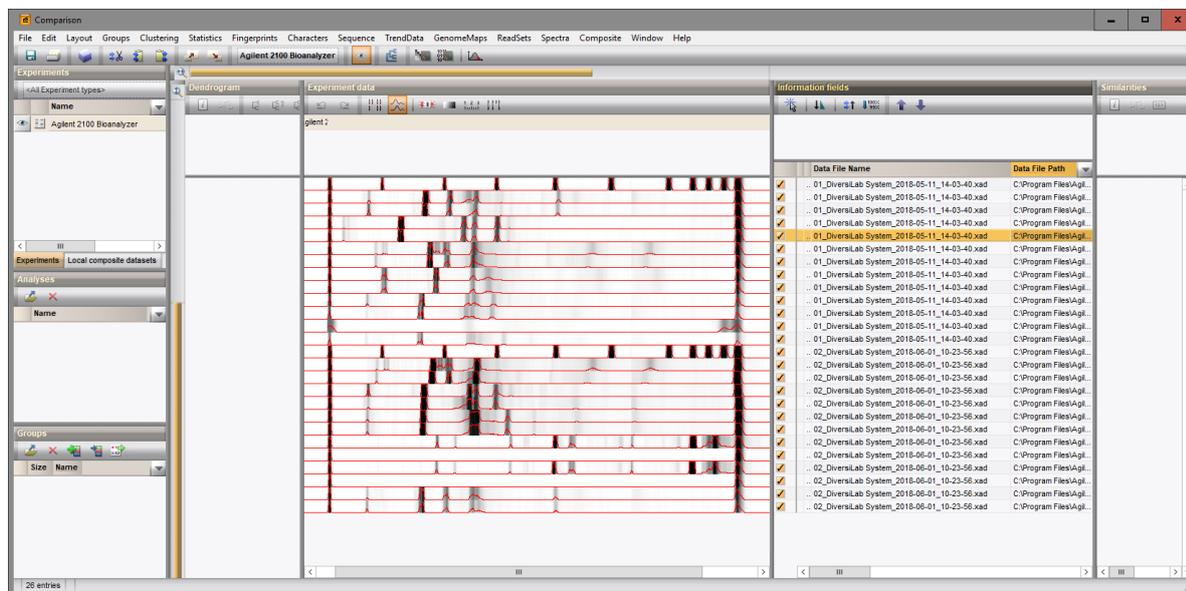

Figure 21: Show densitometric curves.
3. Click on the (left arrow) next to the experiment name **Agilent 2100 Bioanalyzer** in the *Experiments* panel to display the patterns in the *Experiment data* panel (see Figure 21).
4. Select *Fingerprints > Show densitometric curves* (mountain icon) to display the densitometric curves (see Figure 21).